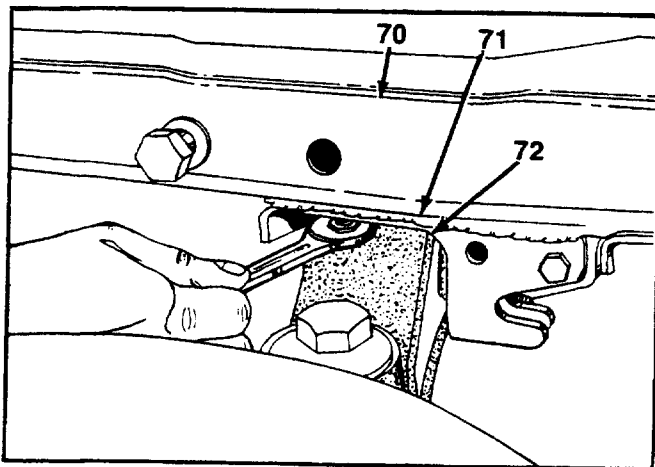

FIGURE 36.
39. Remove the (front) hex bolt, hold the engine cradle to the frame. See figure 36. Note: An open end wrench will be required, because the bolt is just above the pivot bar. See figure 36.